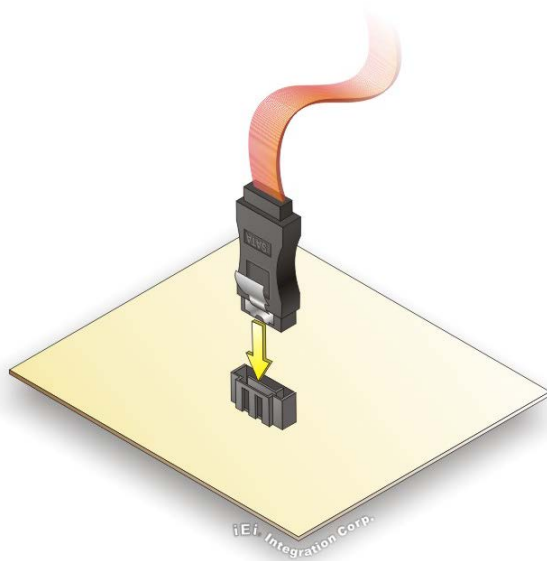

Figure 4-7: SATA Drive Cable Connection
Step 2: **Insert the cable connector.** Insert the cable connector into the on-board SATA drive connector until it clips into place. See **Figure 4-7**.
Step 3: Connect the cable to the SATA disk. Connect the connector on the other end of the cable to the connector at the back of the SATA drive. See **Figure 4-7**.